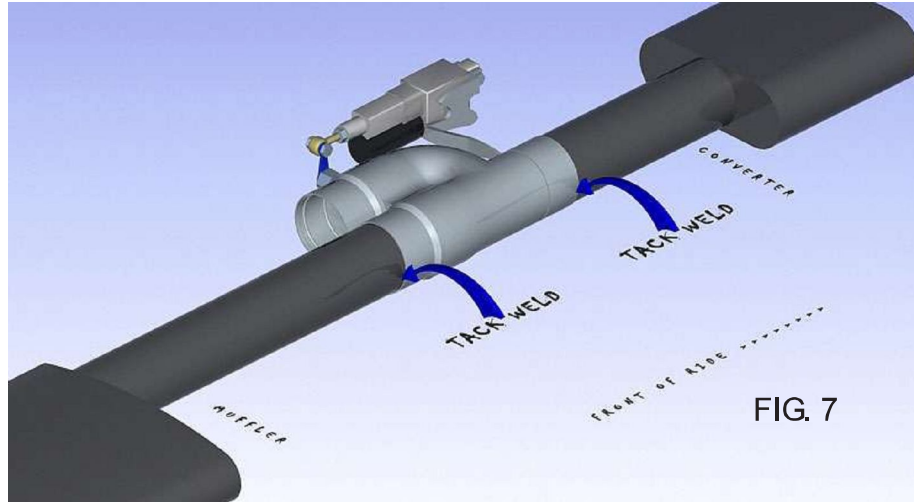

FIG. 7
**STEP 5-** CAREFULLY HOLD THE DIVERTER IN POSITION WITH SINGLE INLET FACING FRONT OF VEHICLE AND TACK-WELD INTO PLACE. (SEE FIG. 7) **\*\*MAKE SURE DIVERTER IS ROTATED PROPERLY BEFORE TACK-WELDING INTO PLACE.**